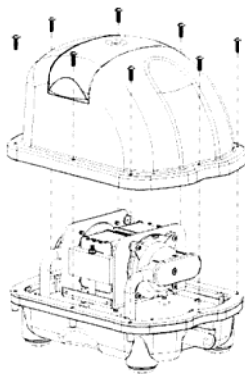

Figure 2
- A. Loosen the eight screws around the plastic upper cover, and take the cover off. (As shown in figure 2)